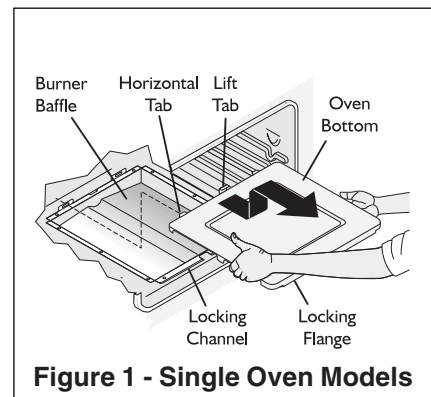

Figure 1 - Single Oven Models
2. Pull up the lock located on both hinge supports and engage it in the hinge lever hooks (Figure 1). You may have to apply a little downward pressure on the door to pull the locks fully over the hinge lever hooks.